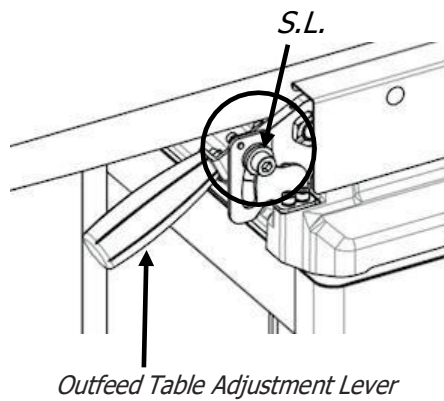

Figure 38: Screw Lock (S.L)
STEP 3: Use a hex wrench (not included) to loosen Screw Lock (S.L.) to release outfeedtable adjustment lever as shown in **FIG. 38**.